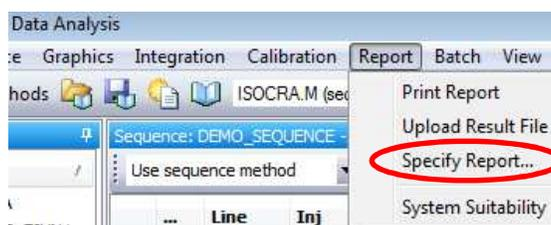
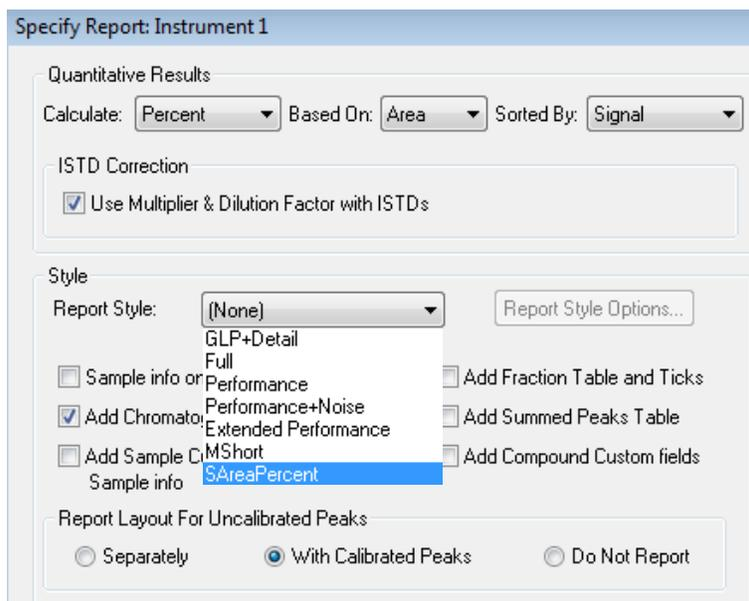

Figure 3.13 Specify Report Menu
Figure 3.14 Chem2XL Template selection.
- After a report style has been added, select the ChemStation Report menu item then click *Specify Report...* (see Figure 3.13) Select the desired report style (Chem2XL template) to be used with the ChemStation Method. Chem2XL allows different reporting templates for each ChemStation Method. Select the new report template style in ChemStation by scrolling through the Style list to select the new report template (see Figure 3.14).